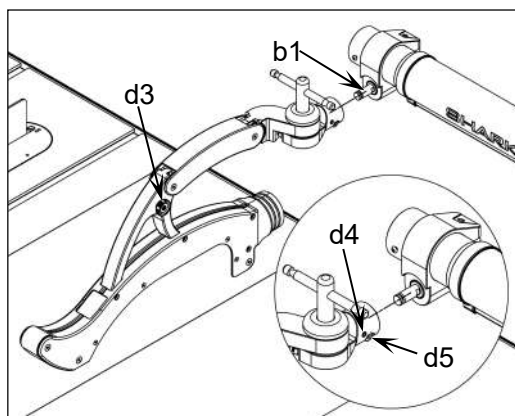

Fig. 12
1. As shown in **Fig. 12**, mount the guard assembly onto the pivot shaft (**b1**). Ensure the end face is fully seated, then tighten.
- Before installation, loosen the guard locking knob (**d3**), ball-point screw M8 × 10 (**d4**), and hex socket screw M8 × 25 (**d5**) as shown in **Fig. 12**.